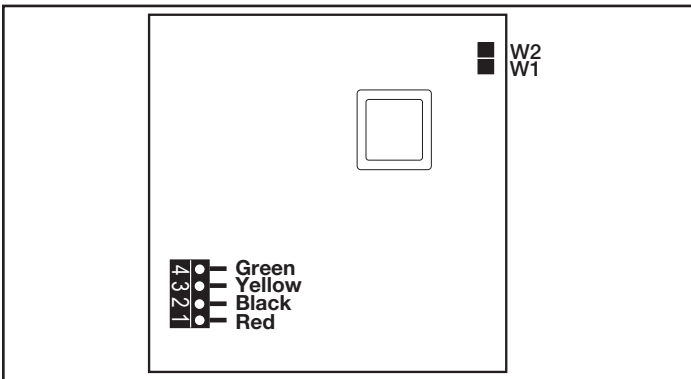

Figure 25. OneTouch PCB - Back View
5. Wire the 4-conductor cable to the red, 4-pin terminal bar (see Figure 25). Push the 4-pin terminal bar onto the back of the OneTouch PCB. Place the PCB with LCD and buttons back into the box. Insert the screws and hand tighten. **Do not overtighten.** Snap the faceplate into place.